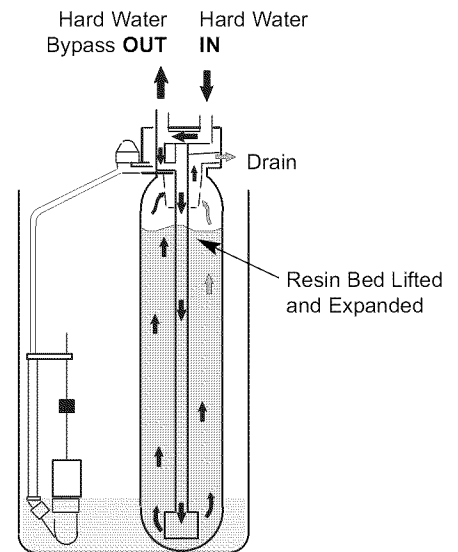

FIG. 44
**BACKWASH:** During backwash, water flows UP through the resin tank at a fast rate to flush iron minerals, dirt and sediments from the bed and to the drain. The bed lifts and expands for good cleaning. See Fig. 44.